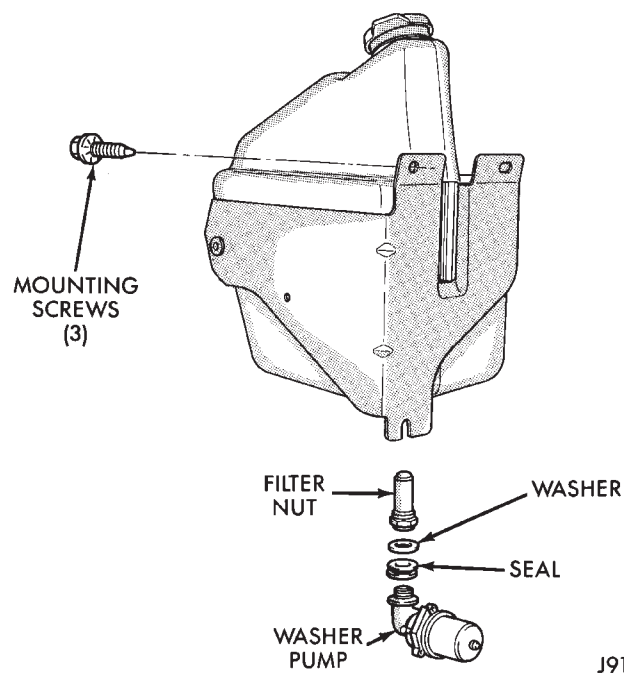

Fig. 10 YJ Washer Reservoir and Pump
- (1) Remove 3 washer reservoir mounting screws (Fig. 10).
- (2) Disconnect hose(s) from pump.
- (3) Drain washer reservoir.
- (4) Using a deep socket, remove filter nut from bottom inside reservoir and remove pump.
- (5) Reverse the removal procedure to install a new pump.